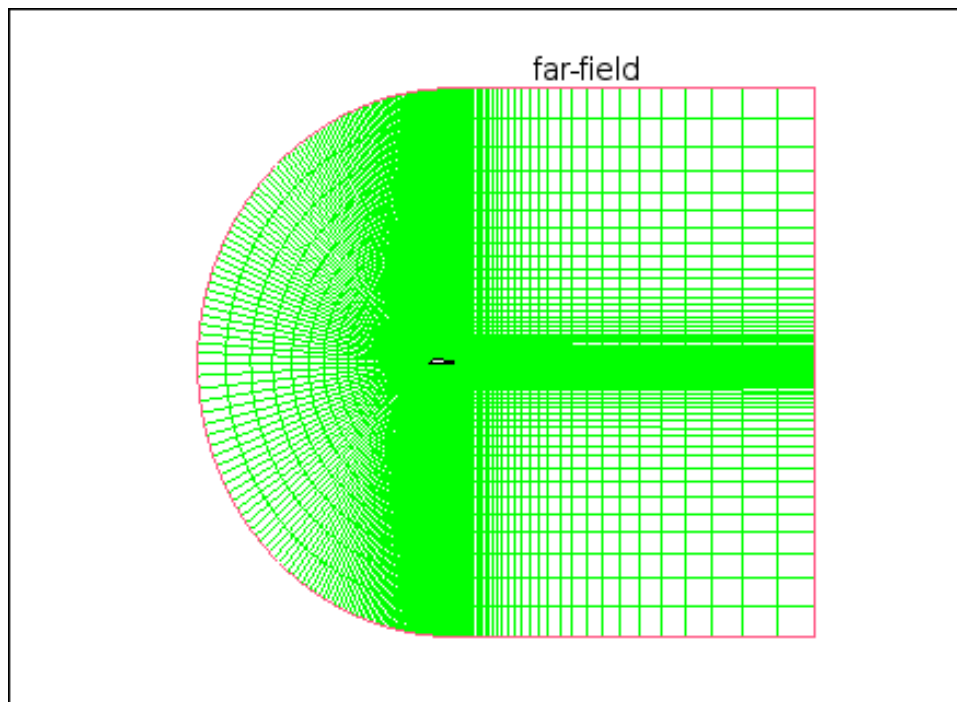

Figure 5.3: Grid Display
4. Display the grid (Figure 5.3).